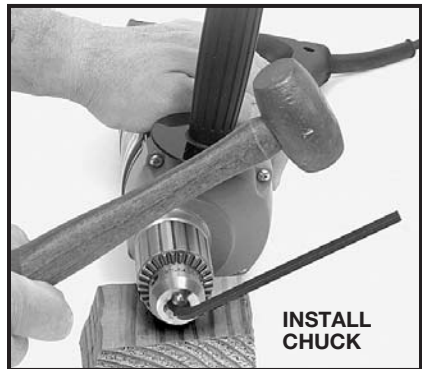

Fig. 5
5. **INSTALL CHUCK:** Open jaws of replacement chuck as wide as possible. Thread chuck by turning chuck clock-wise. Hand tighten. Install hex wrench in chuck (see Step 5). While supporting chuck on a solid surface, position hex wrench to the right (see Fig. 5) and strike a sharp blow with a hammer to seat chuck onto spindle.